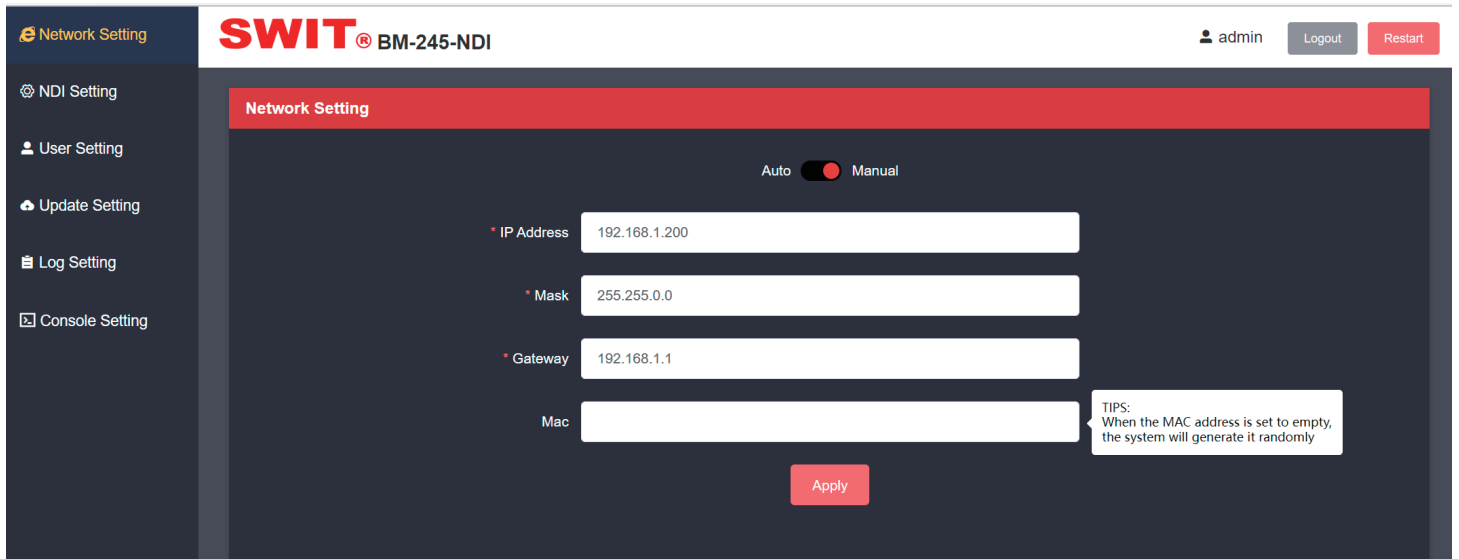

Fig.2
3. Click “Apply” after entering IP address, Mask, Gateway; If the network access way is changing from “Auto” to “Manual”, user need to refresh the page to show previous “IP Address”、“Mask”、“Gateway” and “Mac” (See Fig.2).